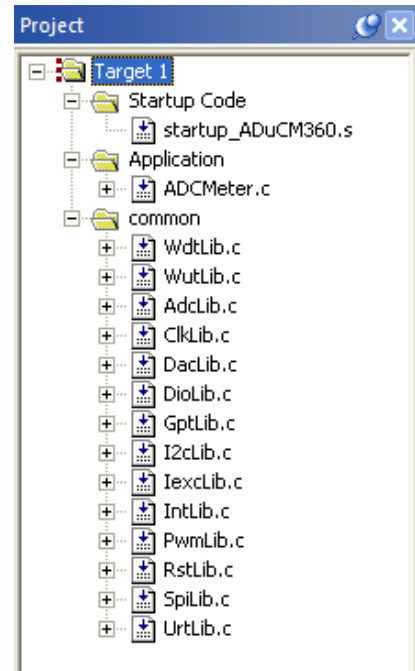

Figure 36. Project Files
2. Add all the files listed in Figure 36 from the directory `\ADuCM360V1.0\Code\common`.